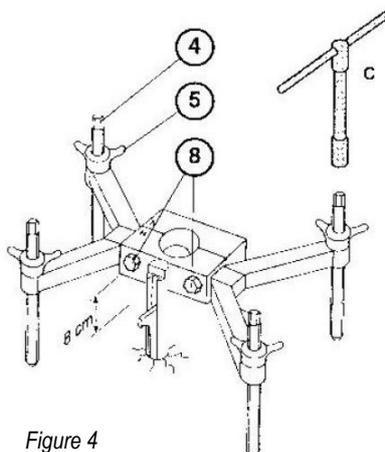

Figure 4
4. Position the down jack so that there is a gap of around 8-10 cm (3-4 inc) (fig. 4) between the rock and the down jack. This space will facilitate the down jack removal operation.
5. Block the down jack by inserting the conical fixing pin 3 into the pin grooving 1 (fig.3b). Apply a few hammer blows to the head of the pin and check that the anchoring is effective (fig.3b e fig.4)
6. Stabilise the down jack by forcibly tightening the levelling screws 4 (fig.4) against the support surface using the special wrench (C) supplied. Block the screws by tightening the butterfly counter-nuts 5 (fig.4).
1. Detach the spherical half-shell from the down jack by unscrewing the tightening bolts 8 (fig.4).